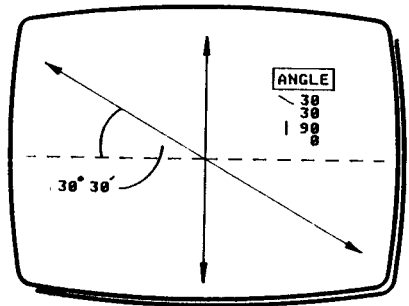

Fig 5
- 3 The locked axes are now at 30 1/2 degrees and 90 degrees (Fig 5).